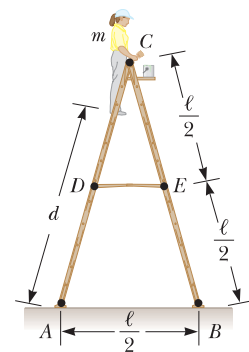

Figure P12.56
56. A stepladder of negligible weight is constructed as shown in Figure P12.56, with $AC = BC = \ell = 4.00$ m. A painter of mass $m = 70.0$ kg stands on the ladder $d = 3.00$ m from the bottom. Assuming the floor is frictionless, find (a) the tension in the horizontal bar DE connecting the two halves of the ladder, (b) the normal forces at A and B , and (c) the components of the reaction force at the single hinge C that the left half of the ladder exerts on the right half.
57. A stepladder of negligible weight is constructed as shown in Figure P12.56, with $AC = BC = \ell$. A painter of mass m stands on the ladder a distance d from the bottom. Assuming the floor is frictionless, find (a) the tension in the horizontal bar DE connecting the two